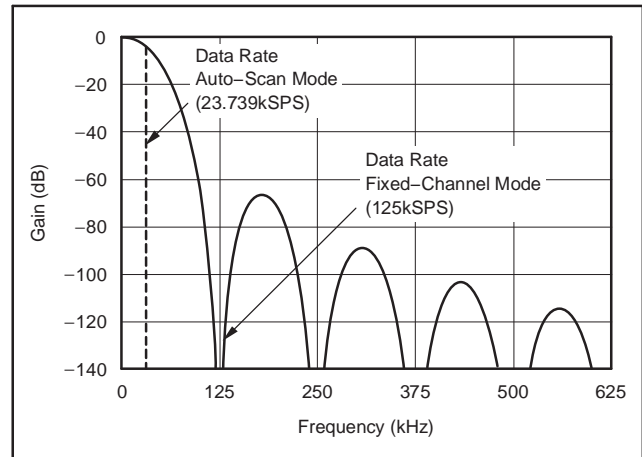
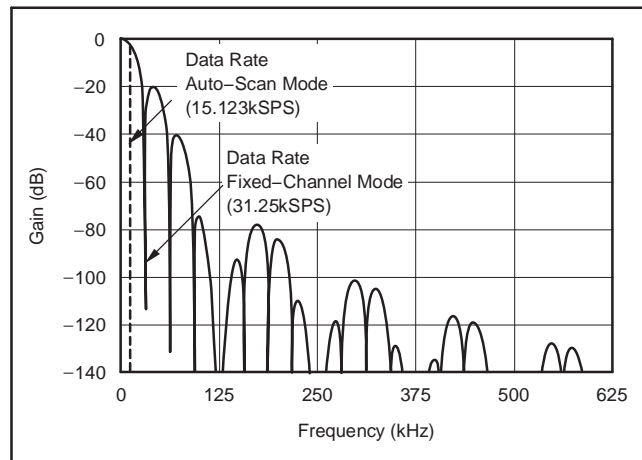

Figure 43. Frequency Response, DRATE[1:0] = 11
Figure 44. Frequency Response, DRATE[1:0] = 10
The low-pass filter has notches (or zeros) at the data output rate and multiples thereof. The sinc^5 part of the filter produces wide notches at $f_{CLK}/128$ and multiples thereof. At these frequencies, the filter has zero gain. Figure 43 shows the response with no post averaging. Note that in Auto-Scan mode, the data rate is reduced while retaining the same frequency response as in Fixed-Channel mode.
Figure 44 shows the response with averaging set to 4 (DRATE[1:0] = 10). 4-reading, post-averaging produces three equally-spaced notches between each main notch of the sinc^5 filter. The frequency response of DRATE[1:0] = 01 and 00 follows a similar pattern, but with 15 and 63 equally-spaced notches between the main sinc^5 notches, respectively.
(1) f_{CLK} = 16 MHz, Chop = 0, and Delay = 0.
(2) Num_Ave is the number of averages performed by the digital filter second stage.
(3) In Auto-Scan mode, the data rate listed is for a single channel; the effective data rate for multiple channels (on a per-channel basis) is the value shown in Figure 43 and Figure 44 divided by the number of active channels in a scan loop.
Referring to Figure 43 and Figure 44, frequencies present on the analog input above the Nyquist rate (sample rate/2) are first attenuated by the digital filter and then alias into the passband.